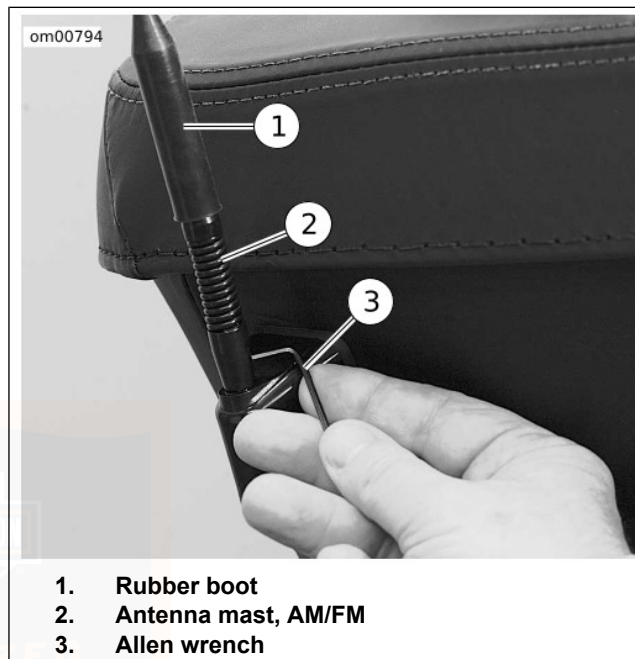

Figure 76. Radio Antenna: FLHTCUSE
1. See Figure 76. Pull the protective rubber boot (1) off of the antenna mast (2).
2. With 2 mm Allen wrench (3), remove lower setscrew.